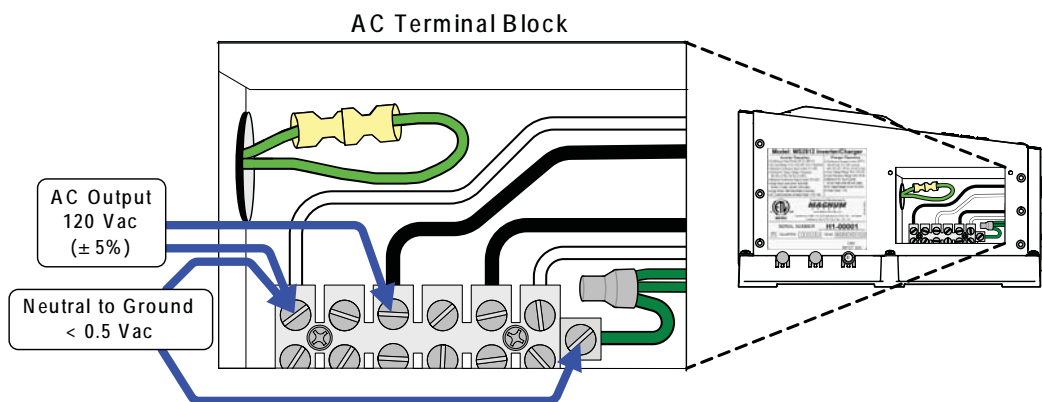

Figure 2-25, AC Voltage Checks
5. Check the AC output voltage of the inverter by connecting an AC voltmeter to the output terminals as shown in figure 2-25 and verify the correct output voltages.